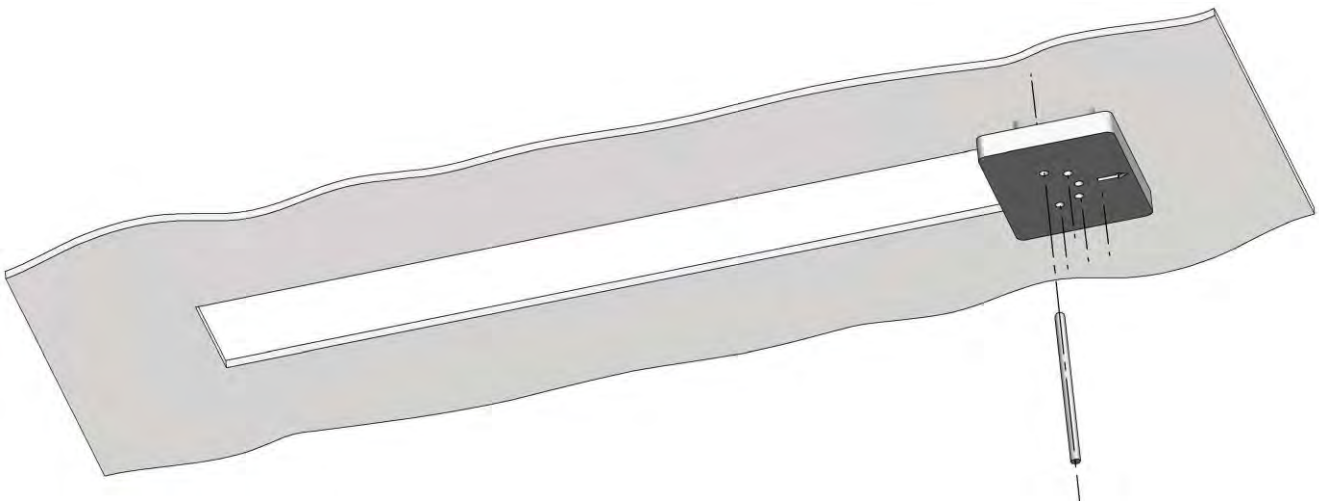

Fig.3
4. Hold the template, and then guide the marker through the holes in the template to mark the drilling of holes mounting in the fixed ceiling, **(Fig.3)**.